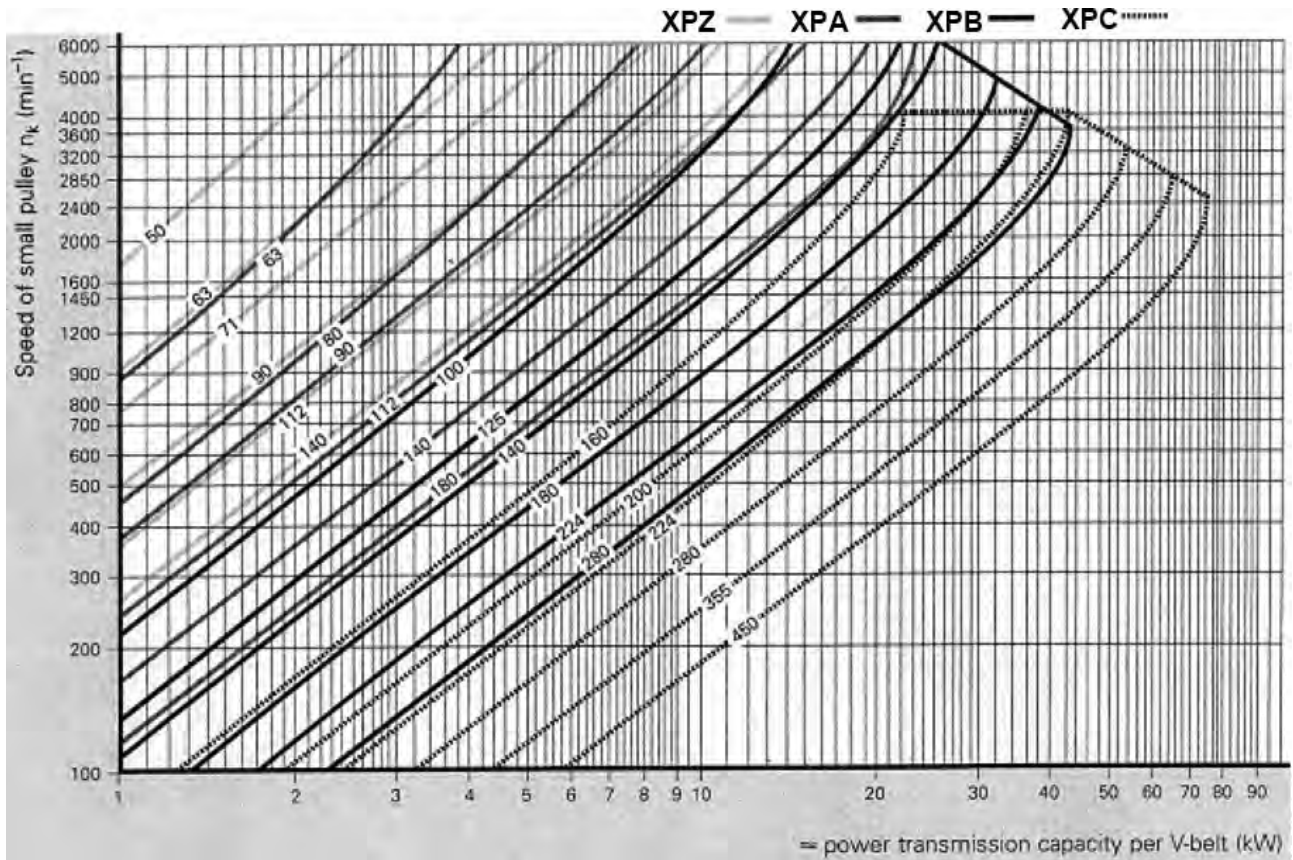
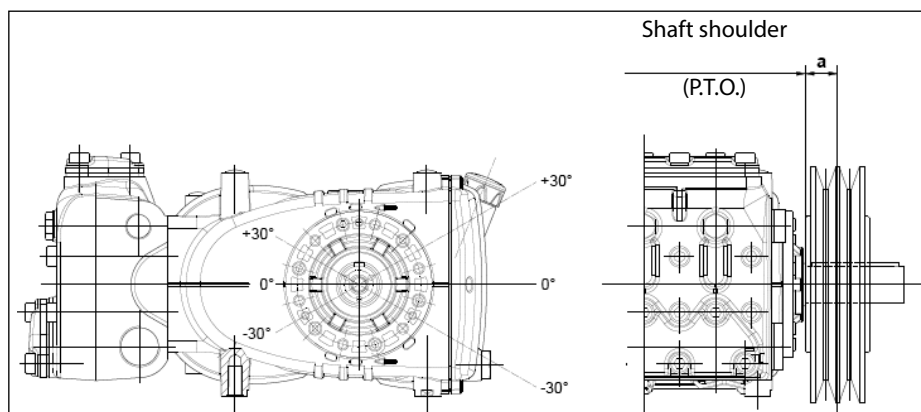

Fig. 7
Fig. 10
For these pump models, we recommend use of 3 XPB belts (16.5x13 serrated). Use an XPC profile only for long durations. Both the characteristics and transmissible power of each belt can be verified in the diagram in Fig. 7, in relation to the number of rpm normally declared by the manufacturer. Minimum duct pulley diameter (on pump shaft): ≥ 160 mm. The radial load on the shaft must not exceed 4500 N (value necessary for Layout definition). The transmission is considered adequate if the load is applied to a maximum distance $a = 50$ mm from the shaft shoulder (P.T.O) as shown in Fig. 10.
- b) Use high performance belts – for example **XPB** instead of **SPB** – as a lower quantity of belts for the same transmitted power may be necessary and a consequent shorter resulting distance compared to the shaft shoulder (P.T.O.) "a" of Fig. 10.
- e) Follow the direction of the belt pull as shown in Fig. 10 for other needs, contact our **Technical or Customer Service Department**.